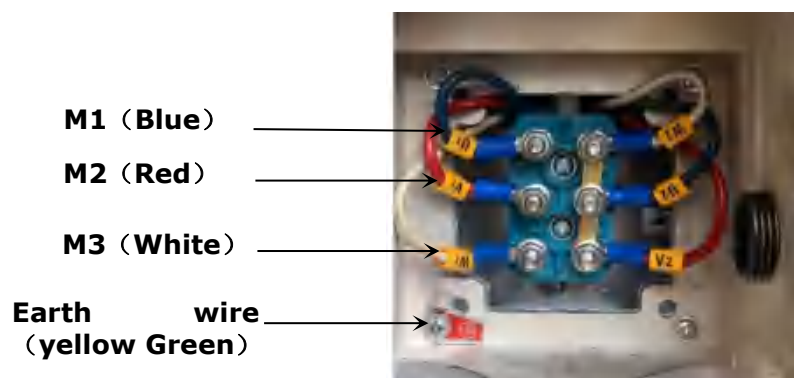

Fig.39
2.2 380V Wire connection diagram of hydraulic motor (See Fig. 39).